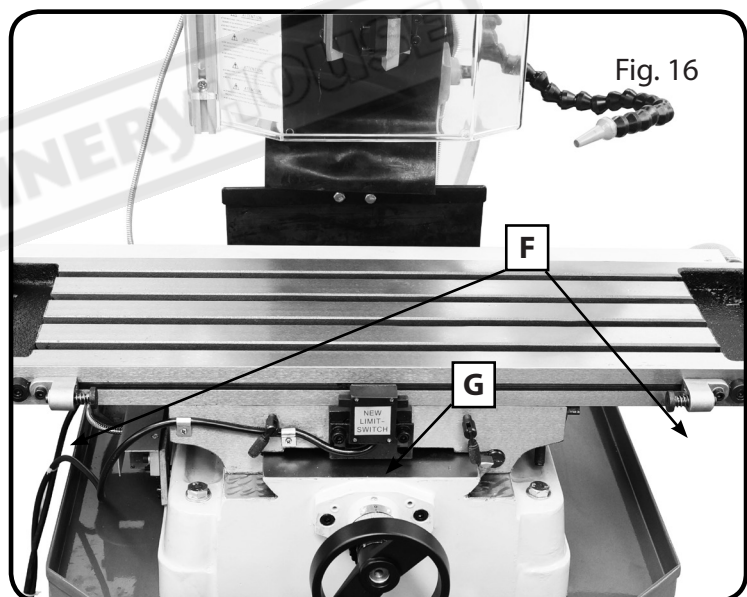

Fig. 16
F. X-Axis Limit Stops: Adjustable along front of table to restrict X-axis table movement, particularly when using the power feed. (Fig. 16)